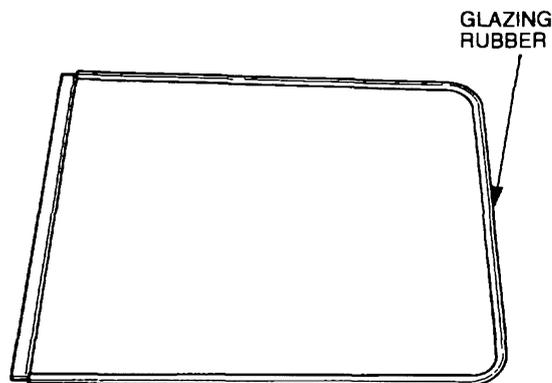

Figure 232 Fixed Window Rubber Installation
- s.** Locate the rubber around the glass ensuring that the glass is located in the groove (Figure 232).